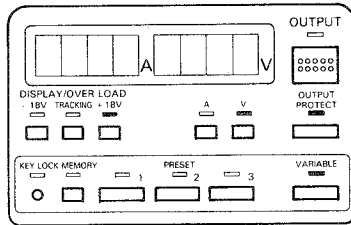

Fig. 10
- 1) Set the LEDs as indicated in Figure 10. Always make sure that the OUTPUT LED ⑬ is not lit.
- 3) Press the A KEY ⑥ and turn the Rotary Encoder to set a positive current limit value.
- 4) Press -18V KEY ⑧ and turn the Rotary Encoder to set a negative current limit value.
- 5) Press the V KEY ⑤ and turn the Rotary encoder to set a negative voltage value.
- 6) Press the MEMORY KEY ⑪ and confirm that the VARIABLE LED ⑩ goes off.
- 7) If one of the PRESET KEYS (1,2,3) ⑫ is pressed, the MEMORY LED ⑪ goes off and the LED of the selected PRESET KEY lights up. An arbitrarily entered value is stored